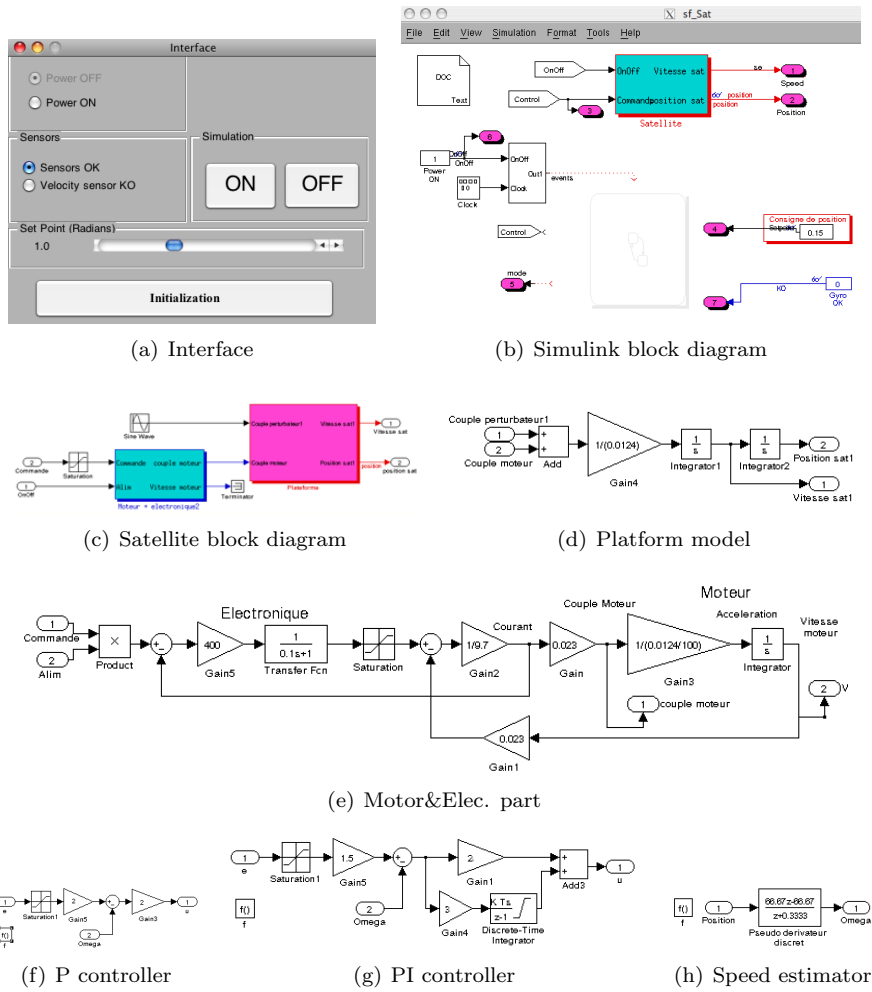

Figure 1: The Simulink skeleton model provided
As the communication with the ground station is not taken into account at this phase of the project, it is necessary to simulate in the Matlab environment the followings signals (see also section 2 and the interface in fig. 1(a) that will be provided in the skeleton of your attitude controller): PowerOn/PowerOff, Speed Sensor OK/ Speed Sensor KO and the reference (setpoint).
- the platform model (see fig. 1(d)),
- the motor and electronic model (see fig. 1(e)),
- the angular speed estimator from the position sensor (see fig. 1(h)),
- the P and PI controllers (see fig. 1(f) and (g)) and the pseudo derivative estimator.
You must model the hybrid control system (the different discrete states (or modes) and the different continuous equations), using Simulink/Stateflow (see appendix A for a quick user guide). It is necessary to use the Interface (provided in the skeleton) allowing to simulate in the Matlab environment the followings signals (see fig. 1(a)):
- Open Matlab; define the active directory as `sf_Sat`, open `sf_Sat.mdl`: you can see the Simulink blocks of fig. 1;
1. click on the Initialization button in the Interface window (fig. 1(a));
The Stateflow will be compiled and run on the target (embedded in the satellite). At this step, the satellite is no more simulated (as in fig. 1(b) to fig. 1(d)) but will receive the control generated by the stateflow and provide the inputs for it.
When using Matlab for simulation, the model run directly on the PC under development. When using xPC Target, the Simulink model is compiled and loaded in the XPC target in real time. The PC is connected to the process via Ethernet. To validate a control law, the simulated physical model (in our case, the platform, the motor and electronic models, see upper part of fig. 1(b)) is replaced by the physical system itself.